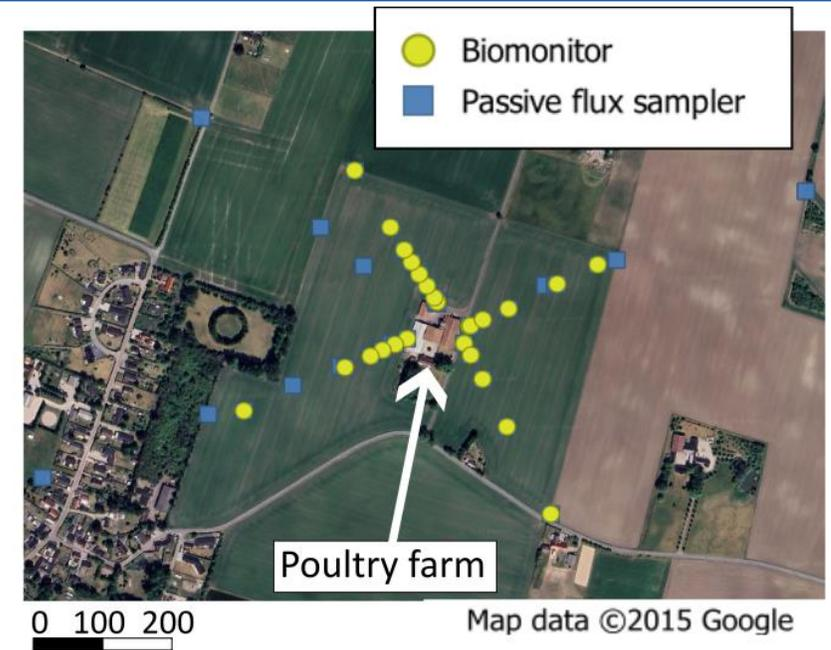

Figure 2. Ringsted poultry farm site, with NH3 passive flux samplers (blue) & deposition biomonitors (yellow)
- Ringsted Farm site (Figure 2):